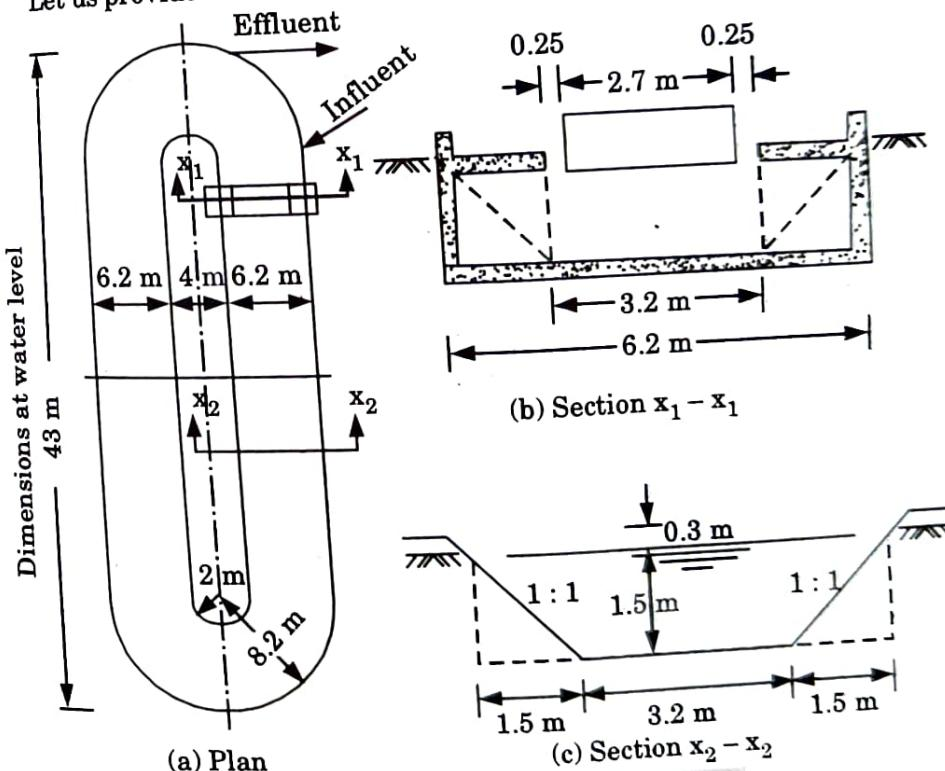

Fig. 5.15.1. Details of oxidation ditch.
v. The details of the oxidation ditch (one unit) are shown in Fig. 5.15.1.